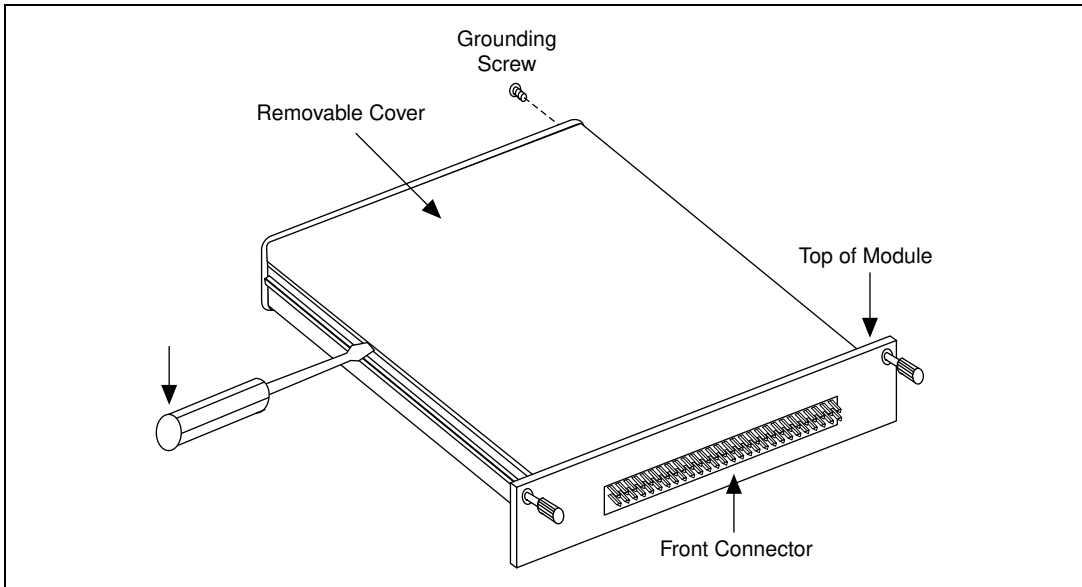

Figure 3-2. Removing the SCXI Module Cover
2. Remove the cover by inserting a flathead screwdriver in the slot at the bottom of the module and gently pushing the screwdriver down until the cover pops off, as shown in Figure 3-2.